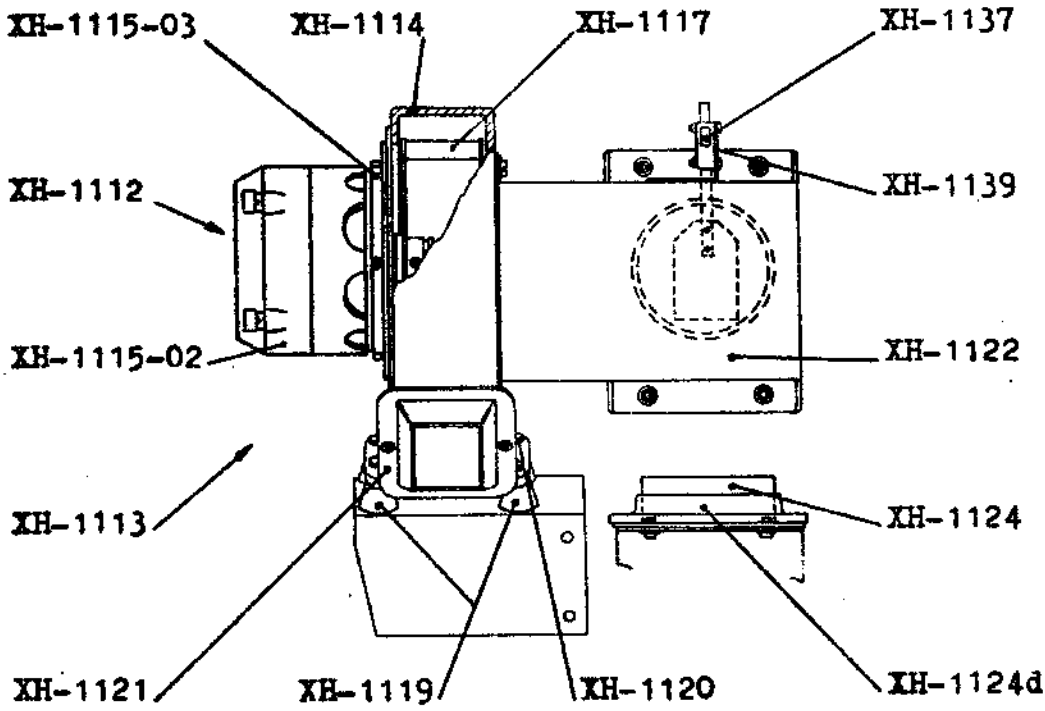

FIG. 5
- FIG. 5 - SOUFFLERIE
- FIG. 5 - BLOWER